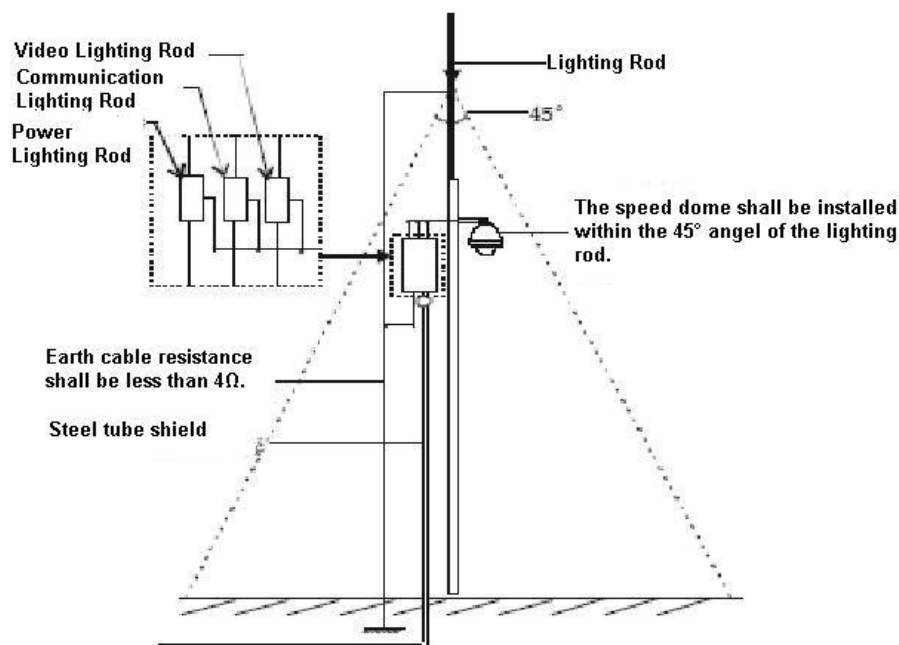

Figure 5-1
- System shall adopt equal-potential wiring. The earth device shall meet anti-jamming and at the same time conforms to your local electrical safety code. The earth device shall not short circuit to N (neutral) line of high voltage power grid or mixed with other wires. When connect the system to the earth alone, the earth resistance shall not be more than $4\ \Omega$ and earth cable cross-sectional area shall below $25\ \text{mm}^2$. See Figure 5-1.